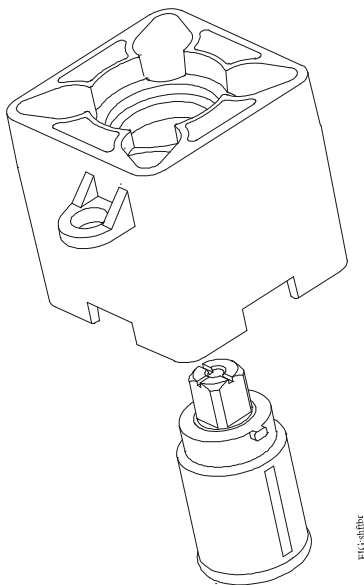

Figure 17: Installing the drive shaft into the thermal barrier
1. Install the thermal barrier drive shaft into the thermal barrier by aligning the tab on the drive shaft with the slot on the thermal barrier (Figure 17).